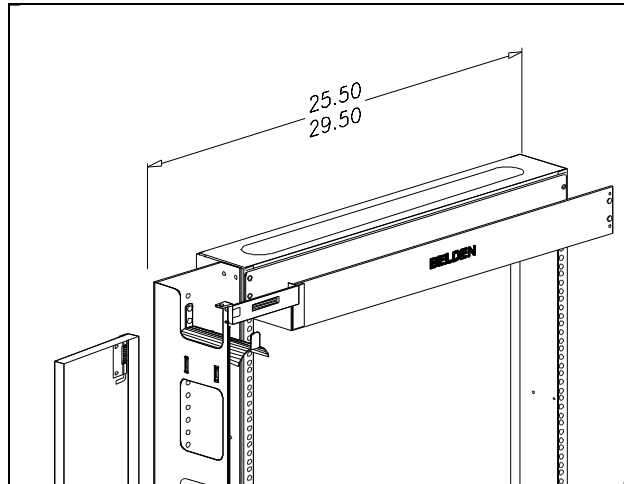

Figure 1
ASSEMBLY (SEE FIGURE 1 AND 2 FOR MORE DETAILS.)
- A. The *Vertical Cable Management Channel* is symmetrical and may be mounted at the front or rear, on either side of the *Copper / Fiber Manager Rack*. Loosely insert one 10-32 x 3/8" truss head screw into the uppermost tapped hole on the side (middle holes used for the copper model) of the frame channel, nearest the top horizontal trough, leaving at least 1/8" of threads exposed. In the same fashion, add a second screw directly below the first. Hang the *Vertical Cable Management Channel* on the 2 screws by passing them through the upper (2) key ways on the *Vertical Cable Management Channel*. Add the other #10-32 truss head screws and tighten.
- B. Attach one magnet bracket to the two studs at the top of the *Vertical Cable Management Channel*, using the 6-32 acorn nuts. Insert the other end of the magnet bracket into the two smaller holes on the top horizontal trough, and attach with two #6-32 acorn nuts. See figure 1 and 2. Attach the lower magnet bracket in the same manner.